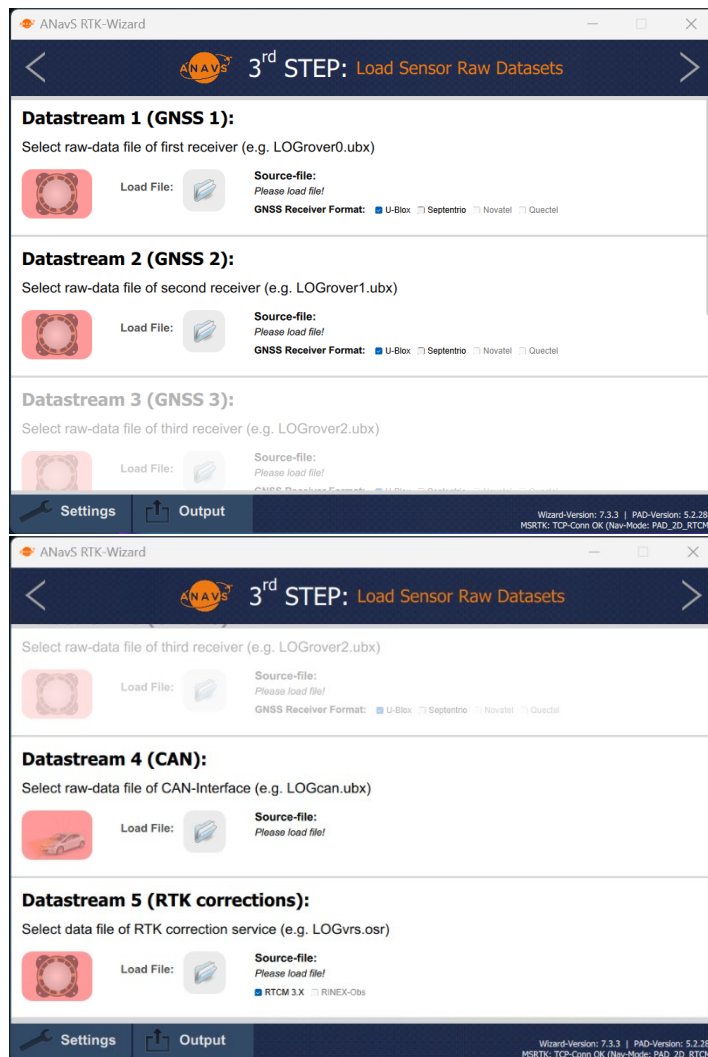

Figure 29: Step-3, loading sensor raw data (GNSS-receivers, Odometry data, RTK correction data)
Figure 29 shows Step-3 of the ANAVS® Wizard postprocessing application. The user needs to define all the recorded raw data files and the proper data format.
- Please connect the GNSS antenna with the marked SMA connector to the Reference Station. The GNSS antenna must stay outside with open-sky environment (see Figure 29).
Recommendation: The GNSS antenna should be fixed mounted on position outside with best possible satellite visibility (see Figure 29). A recommended place would be the roof of a high building or similar places. The RTK correction data of the Reference Station are highly accurate for rovers within 15 km distance from rover (MS-RTK module) to Reference Station. A common way is to fix the Reference Station on a location where the user can calibrate the position once a time and don't change the position again.